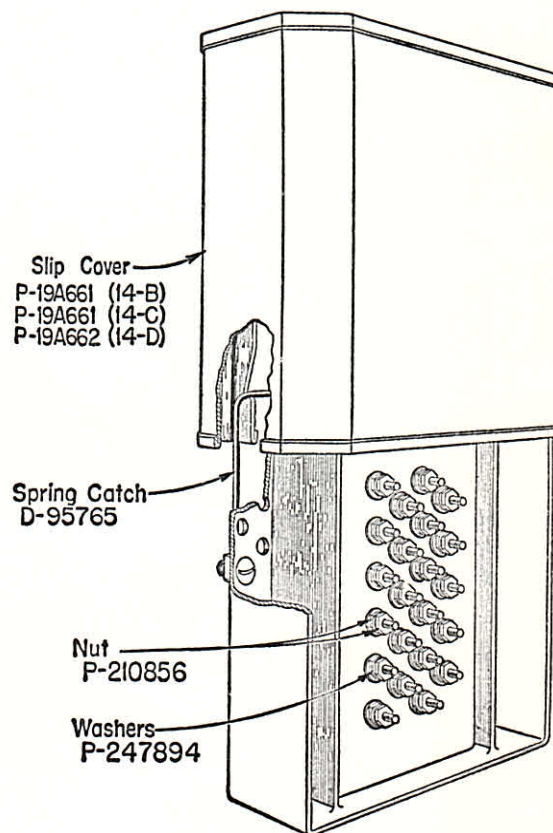

Fig. 1
2.01 Parts are indicated in Fig. 1.